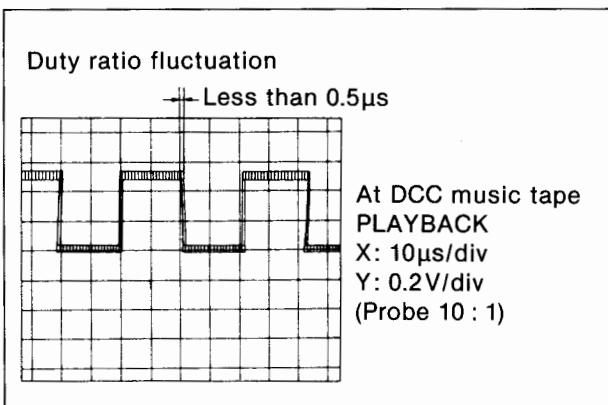

Fig. 1
1. Connect an oscilloscope to IC503 pin ⑩ on the digital P.C.B.
2. Load a **DCC music tape** into the unit under test and put the unit in **PLAY mode**. When the capstan servo is locked, a **square wave with a duty ratio fluctuation of less than 0.5μs** will be observed on the scope (see Fig. 1). Unlock the servo and verify that the muting function is active.